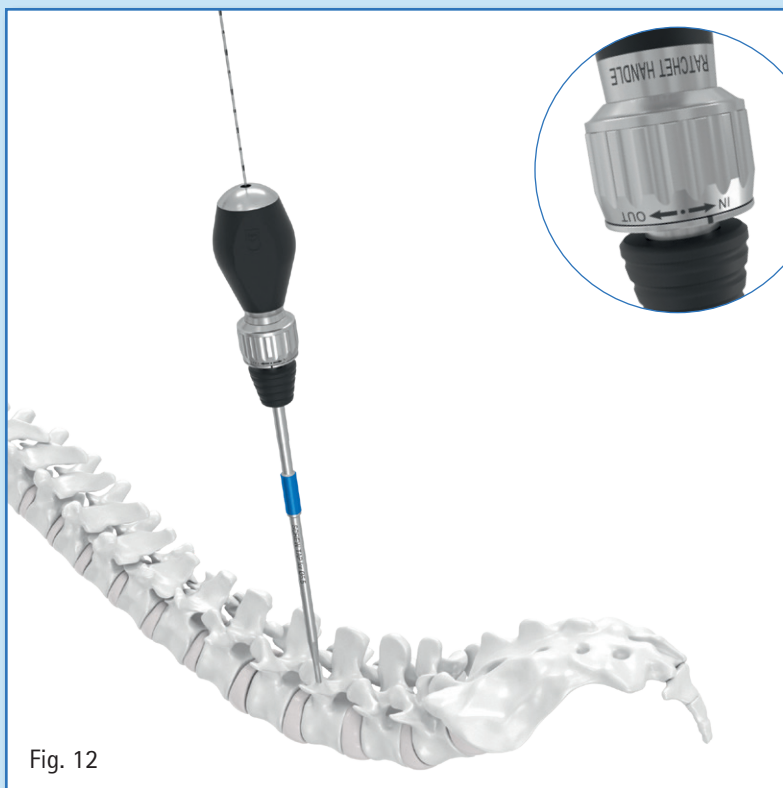

Fig. 12
- To tap, attach the desired Quick Connect Ratchet Handle (SZ222R, SZ224R or SZ225R) to the appropriately sized tap (SZ254R-SZ260R) based on the screw diameter. The Taps are undersized by 0.5 mm of the final screw diameter. Ensure that the ratchet is set on "IN" for tapping. To remove the instrument, set the ratchet on "OUT". (Fig. 12)